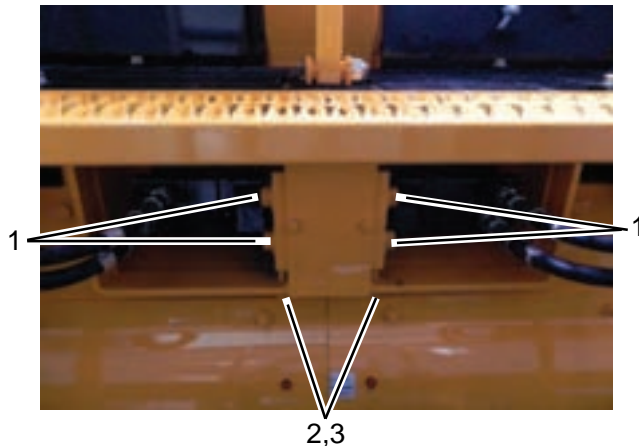

Figure 5-8. Conveyor Drive Chain Bolts
1. Loosen the motor bolts on the right and left auger chains. **(Figure 5-8)**